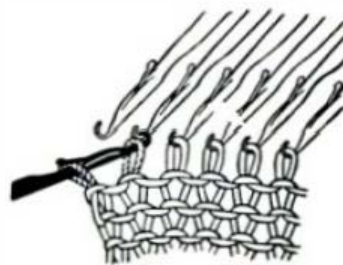

Fig. 71
3. Remove first 2 stitches from the needles onto latch tool and let them slide past the latch. (See Fig. 71, 72)